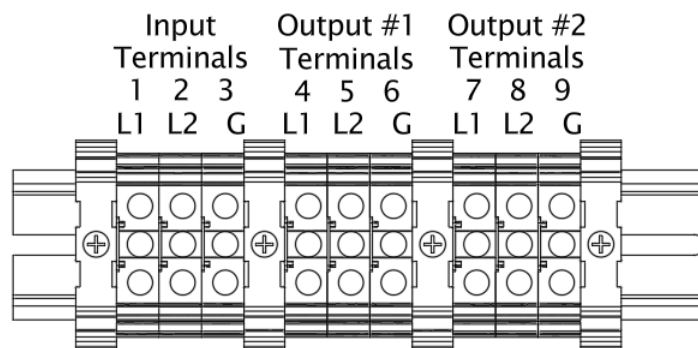

Figure 7: Terminal block array of 0.675 -2.70kW ELI
1. Connect input wires to appropriate input terminals according to **Figure 7**
2. Connect output wires to appropriate output terminals according to **Figure 7**
1. Connect input wires to appropriate input terminals according to **Figure 7**.
2. Connect Output wires to appropriate Output terminals to **Figure 7**.